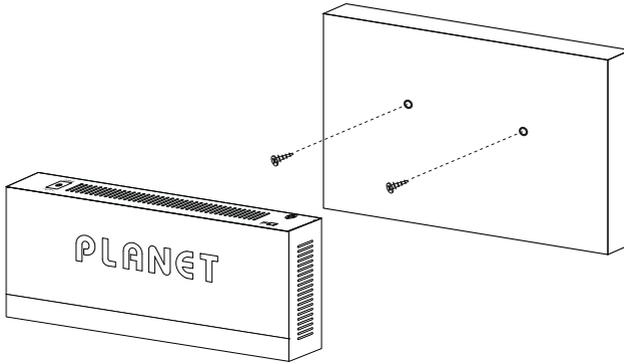

Figure 3-3: PoE Ethernet Switch Wall Mount Installation
Step 1: There are 2 holes with 5mm diameter on the wall; the distance between the 2 holes is 110mm and the line through them must be kept horizontal, as shown in Figure 3-3.